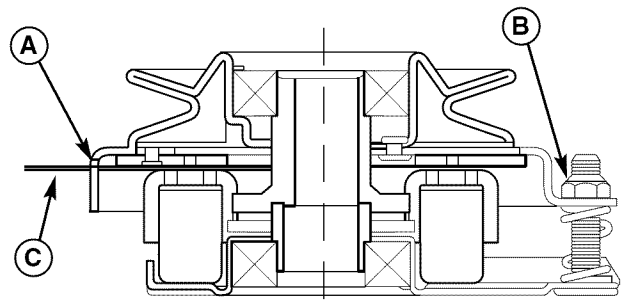

Figure 28. Adjust PTO Clutch
3. Insert a .012"-.015" (2,5-4 mm) feeler gauge (C) through each window, positioning the gauge between the rotor face and the armature face as shown in Figure 28.
4. Alternately tighten the adjustment nuts (B, Figure 28) until the rotor face and armature face just contacts the gauge.